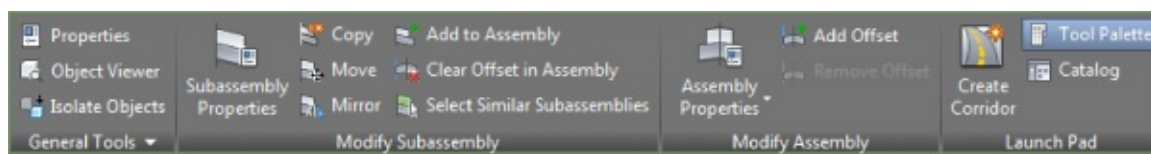

Figure 8.15 The Subassembly contextual tab with subassembly modification tools
25. Select the curb, sidewalk, and daylight subassemblies on the right side of the baseline. The Subassembly contextual tab will show a variety of tools, including Mirror (Figure 8.15).